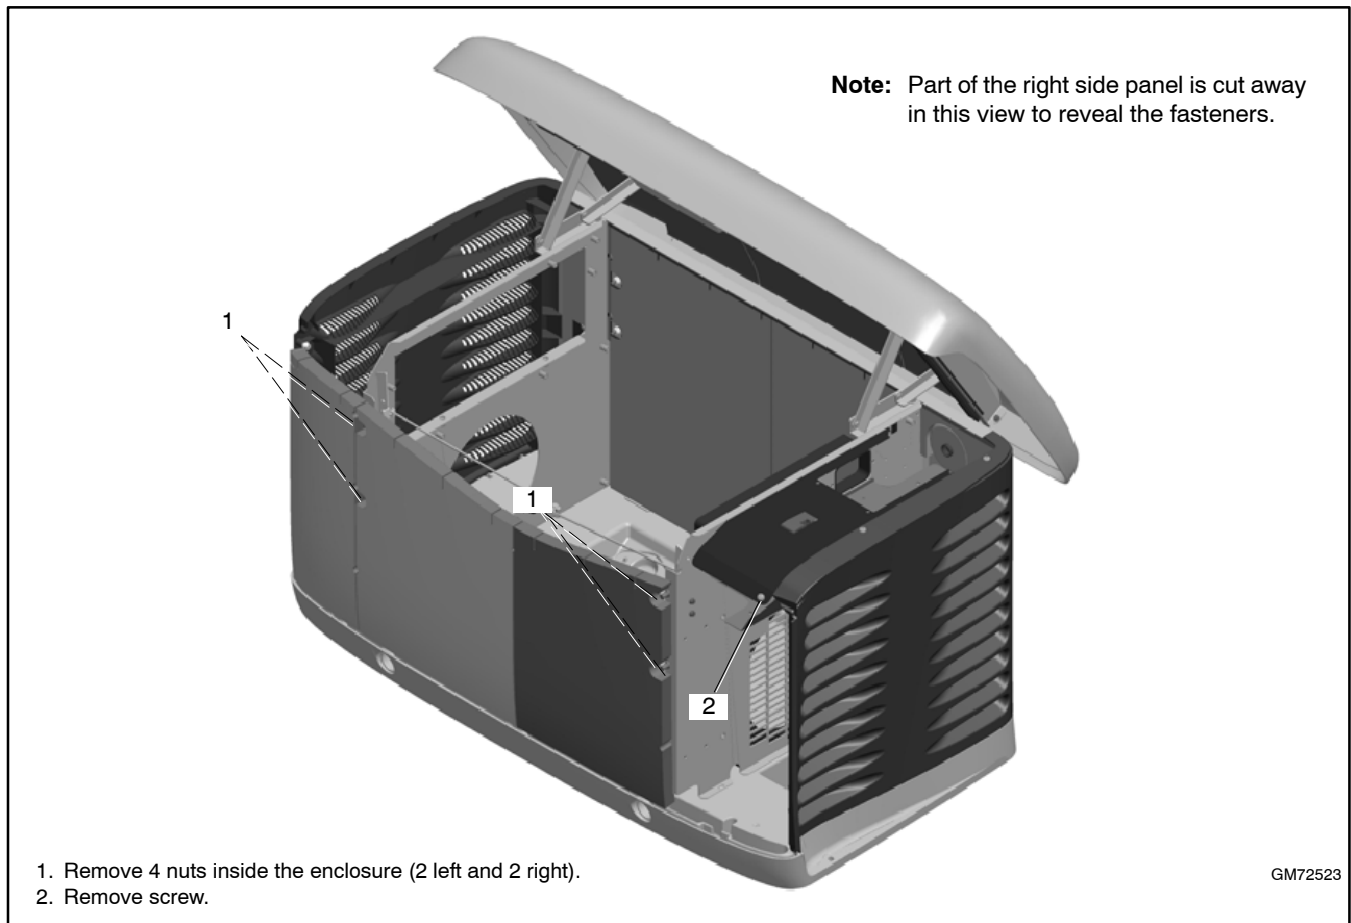

Figure 6-6 Right Side Panel
7. See Figure 6-6. Remove two nuts on each side (total of four nuts).